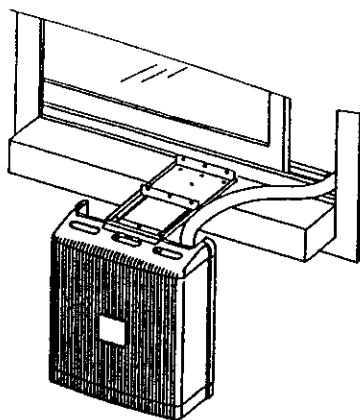
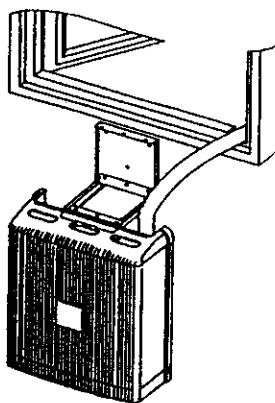
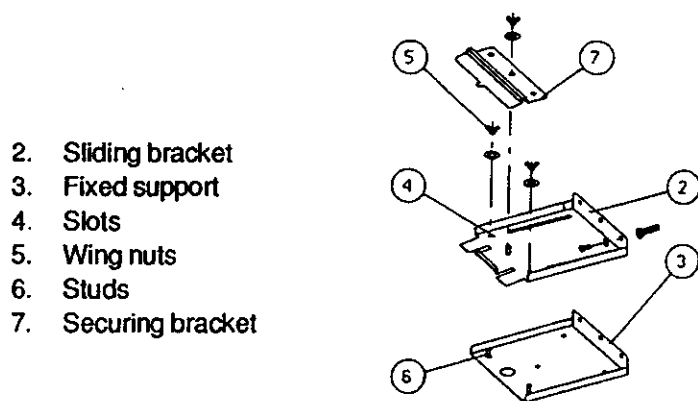
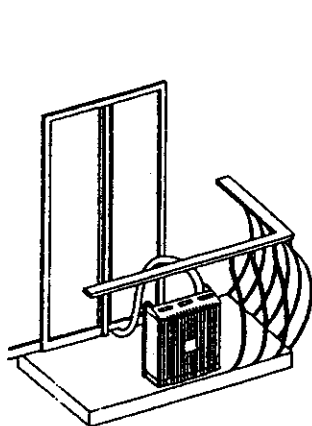

Figure 5. Suspending outdoor unit from window sill
Figure 6. Suspending outdoor unit from wall
Figure 7. Outdoor unit supporting kit
Figure 8
A standard kit (Figure 7), supplied with the air conditioner for supporting the outdoor unit, makes it possible to mount it either from a window sill (Figure 5) or on the wall (Figure 6).
1. Slip the unit handle over the sliding bracket (2)(Figure 7) of the unit support (see Figures 5 and 6).
2. For window mounting, refer to figure 5. Place the fixed support (3) (Figure 7) on the window frame, drill three holes in the window frame and mount the support securely with three screws.
3. Place the sliding bracket (2) so that its slots (4) fit into the matching studs (6) in the fixed support (3). Secure sliding bracket with wing nuts (5) (Figure 7). Suspend the outdoor unit on the sliding bracket.
4. Slide the unit to the most suitable place (minimum 100 mm from wall) and tighten the two wing nuts (5) (Figure 7).
5. Place the securing bracket (7) (Figure 7) in place and tighten it. Verify that the unit is well supported, stable and secured.
6. For wall mounting, refer to Figure 6. Place fixed bracket (3) against wall, drill three holes in the wall and fasten with three screws; verify that the support is level.
7. Engage the sliding bracket with the two holes over the two studs and tighten the wing nuts (5). Install the securing bracket (7). Verify that the unit is well supported and stable.
8. Prepare a slot in the lower part of door or window frame for the interconnecting hose location (see Figures 8, 9, 10, 11).